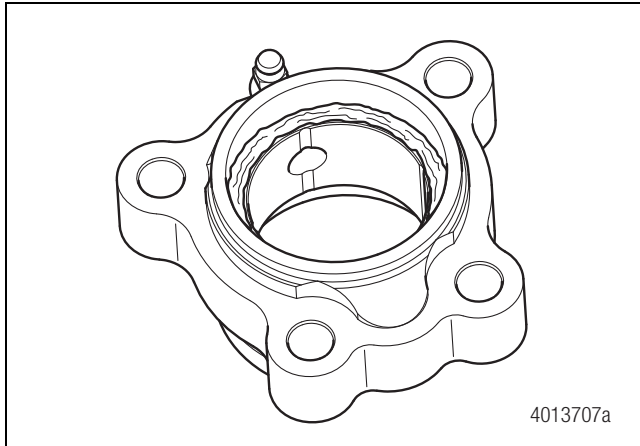

Figure 11.41
- 6. Remove the first seal. Figure 11.41.